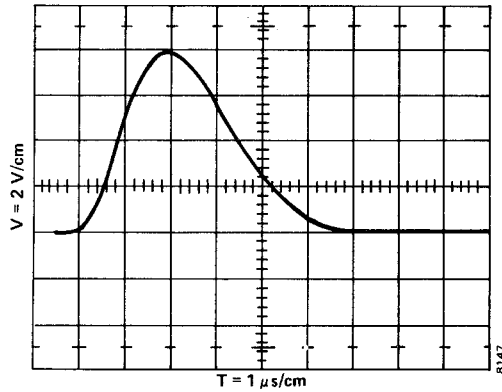

Fig. 1.6. Correct Amplifier Unipolar Output.
4. Now move the oscilloscope cable to the output of the 575A Amplifier and adjust its gain controls until the output pulses have an 8.5-V amplitude. The oscilloscope parameters should be the same as those in Table 1.1 except that parameter 13 should be 2 V/cm and parameter 5 should be 0.1 ms/cm. The correct output pulse should look like the pulse shown in Fig. 1.6.